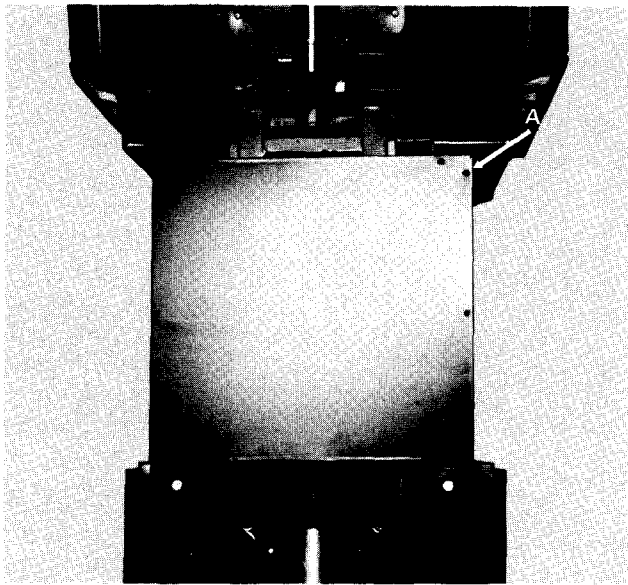

Fig. 12
Remove rear inner shroud by removing (8) small screws, (Item A, Fig. 12).